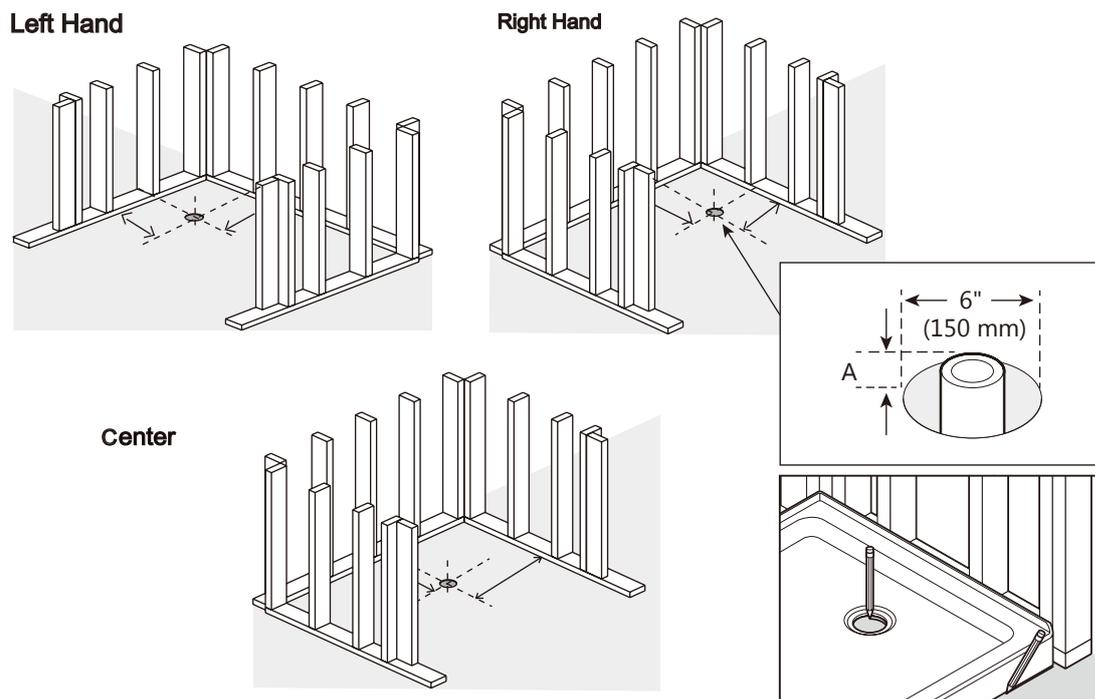

Fig. 1
- These marks are used to verify base location after drain is installed. (Fig 1)
- The pipe height (A) shall be determined according to the products on hand.